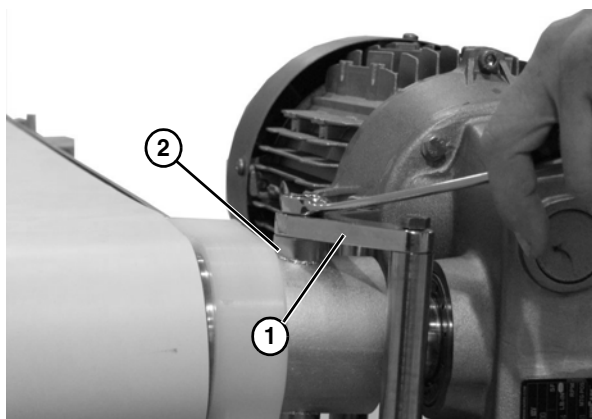

Figure 58
3. Remove the top gearhead mounting bar (**Figure 58, item 1**) from the motor mounting bracket (**Figure 58, item 2**).